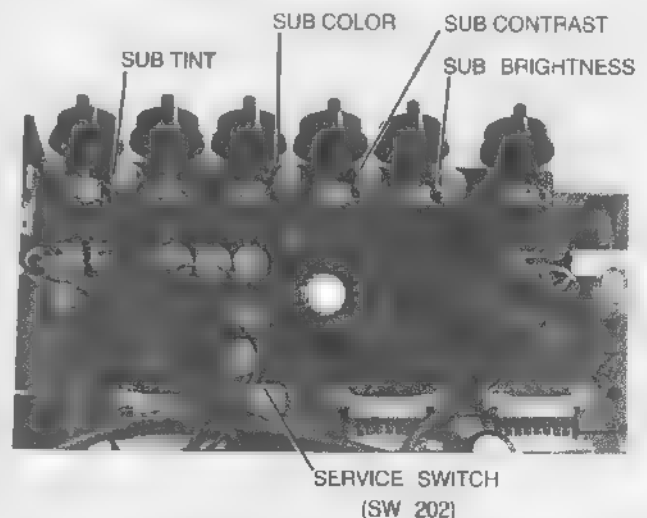

Figure 3-15. Sub controls for front panel controls
2. Set the service switch, SW202 to the SERVICE setting to produce a horizontal line at mid-screen. See Figure 3-15.
3. Refer to Figure 3-15. Adjust Sub-tint, R316, and Sub-color, R312, so that the blue bars (white, cyan, magenta, blue) are equally bright and the bars that contain no blue (yellow, green, red, black) are equally black